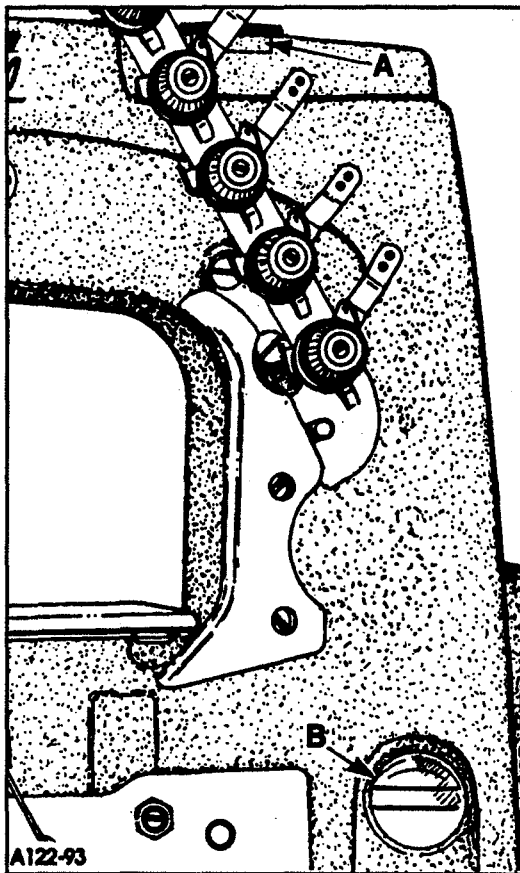

FIG. 1
Before operating, fill machine with oil at plug screw (A, Fig. 1). While filling machine with oil, check gauge (B). When proper oil level is reached, the oil level should appear in the center between the two lines on gauge (B). It is recommended to